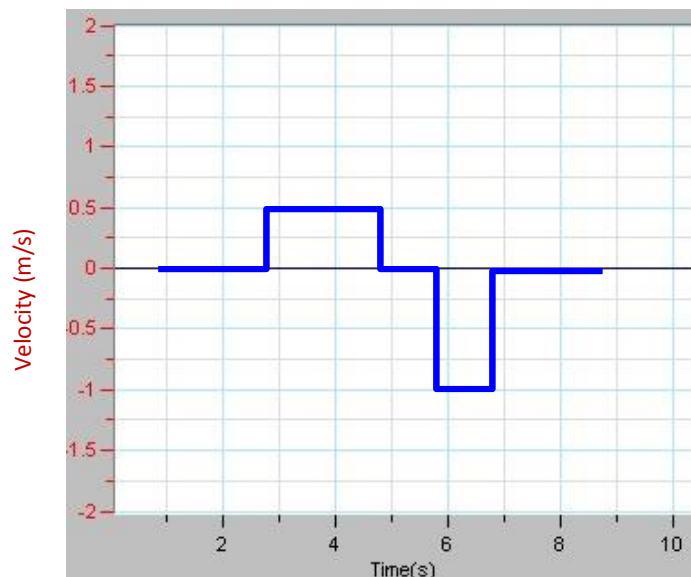

Figure 3: Velocity vs. Time graph
6. Repeat steps 3 to 5 to match the following graph (Figure 3):
6. Describe how you walked in order to match the graph in Figure 3.